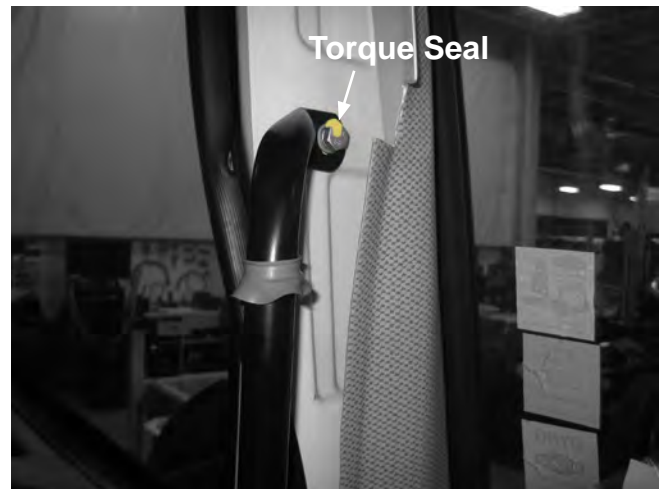

Figure 10-4
4. Apply torque seal to the bolt (see Figure 10-4).